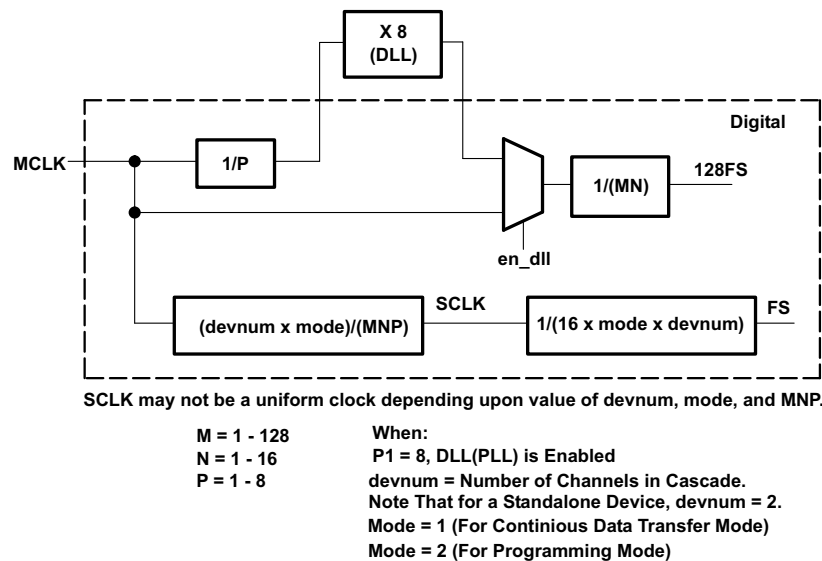

Figure 18. Clock Timing
5. The fine sampling rate needs an on-chip phase lock loop (frequency multiplier) to generate internal clocks. The output of the PLL is only used to generate internal clocks that are needed by the data converters. Other clocks such as the serial interface clocks in master mode are not generated from the PLL output. The clock generation scheme is as shown in Figure 18. The PLL requires the relationship between MCLK and P to meet the following condition: $10 \text{ MHz} \leq (\text{MCLK}/P) \leq 25 \text{ MHz}$.